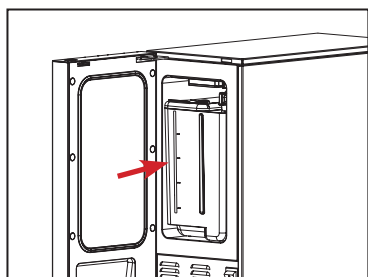

Fig.8
8. Slide the tank back into the fridge, leave the fridge door open during cleaning to prevent steam build-up in the cooling area (See Fig.8).
8. After rinsing or washing, dry the tank and lid (See Fig.8).
8. Rinse the milk tank and lid with warm water (use a mild cleaning agent to wash the tank, if necessary) (See Fig.8).